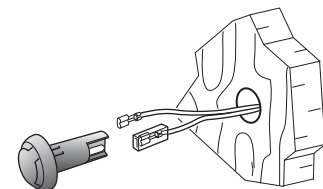

Abb. 20
- ▶ Loch Ø 10 mm (Abb. 20) bohren.